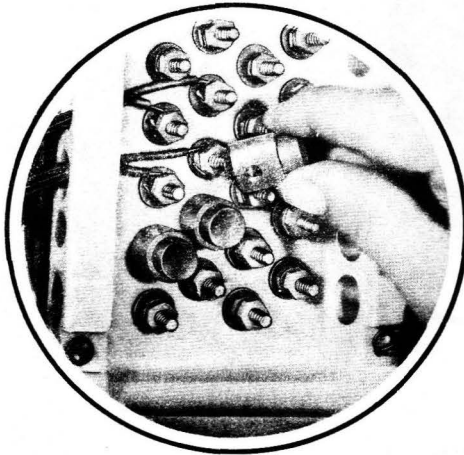

Fig. 18—Installing Binding Post Caps
8. INSTALLING AND REMOVING SSP (Fig. 18 through 38)